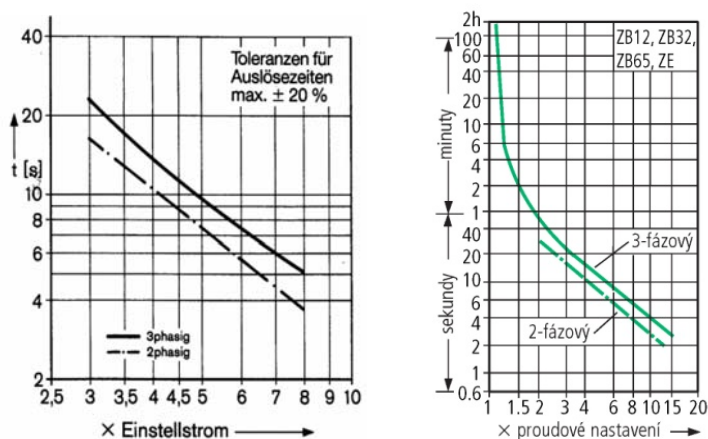

Figure 13 – Reaction times of the motor residual current devices of the ZE type
**NOTE** For switching of motors of pumps and vacuum pumps in the dispensers there are used motor contactors **DIL EEM-10** and **DIL EM-10-GI** with thermal residual current devices of type **ZE-2.4** and **ZE-0.6** from the company Moeller Klöckner, or motor circuit breakers of type **PKZM 0-0.4** from the same producer. In Figure 13 there are shown the reaction times of the used residual current devices of the ZE type.